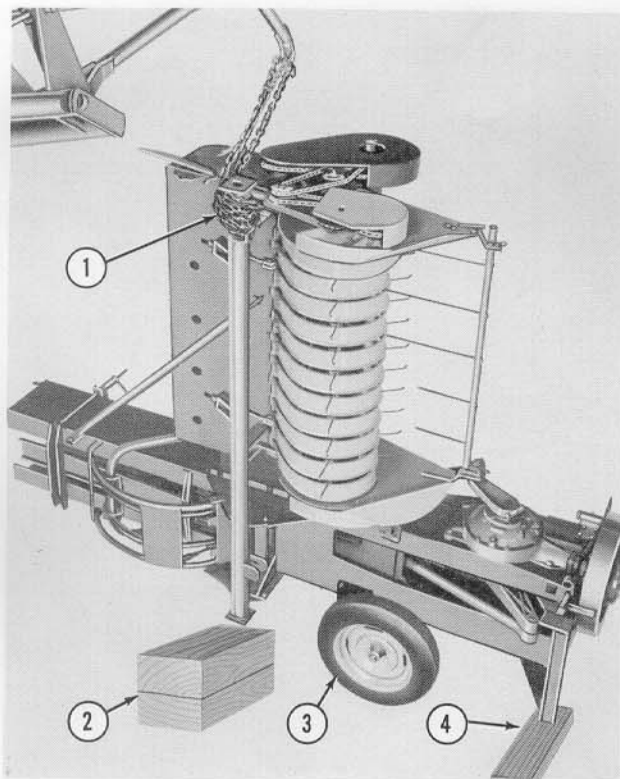

Figure 36
baler axle and under the auger support bracket as shown at (1), Figure 36.
NOTE: It is suggested that the tractor-loader operator approach the baler from the right side and slightly to the rear as shown in Figure 36.
2. If the baler is on concrete where there is danger of sliding, place a board under the front end as shown at (4), Figure 36.
3. Position suitable blocking under the baler axle as shown at (2), Figure 36, so that the end of the axle will be supported on the blocks as the baler is lowered.
4. Slowly and carefully back up the tractor, pulling the baler over on the wheel as shown at (3), Figure 36.
8. Place a jack under the left side of the baler and raise it until the blocks (2), Figure 36, can be removed from under the axle.